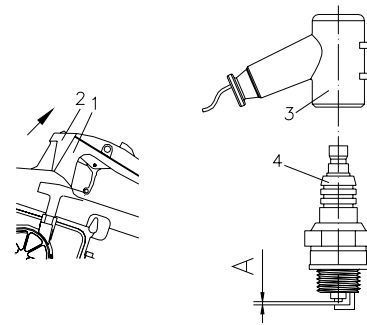

Fig. 12
2. Maintenance of spark plug (Ref. Fig. 12):